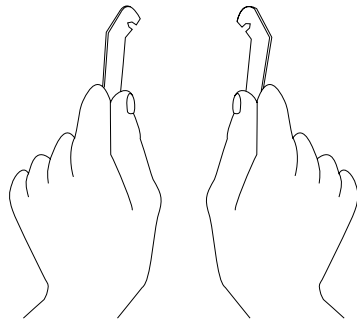

Figure 5-56 Orientation of Wrenches
- Grasp the wrenches as shown in Figure 5-56. The orientation of the wrenches is important.